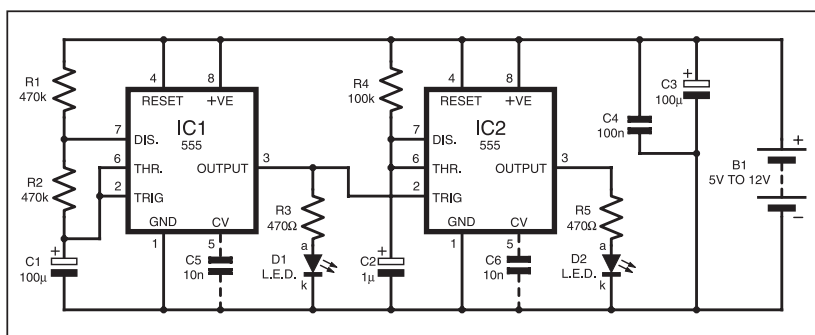

Fig.8.6. Combined astable and monostable circuit.
circuit is shown in Fig.8.6. We have retained the l.e.d.s, D1 and D2, to show that the circuit is working, but in practice they may not be required, in which case their series resistors (R3, R5) are also redundant. The values of resistors R1 and R2, and capacitor C1 will provide the following timings at IC1 pin 3:
However, capacitors C3 and C4 across the power lines in Fig.8.6 help to provide a stable supply for the system. Pin 5 (CV) of each timer can also be decoupled beneficially by connecting 10nF capacitors (C5 and C6) between them and 0V.
A breadboarded test assembly of the circuit in Fig.8.6 is shown in Photo 8.4 (but excludes capacitors C4, C5 and C6).
Left: Photo 8.4. Breadboard layout of the circuit in Fig.8.6.